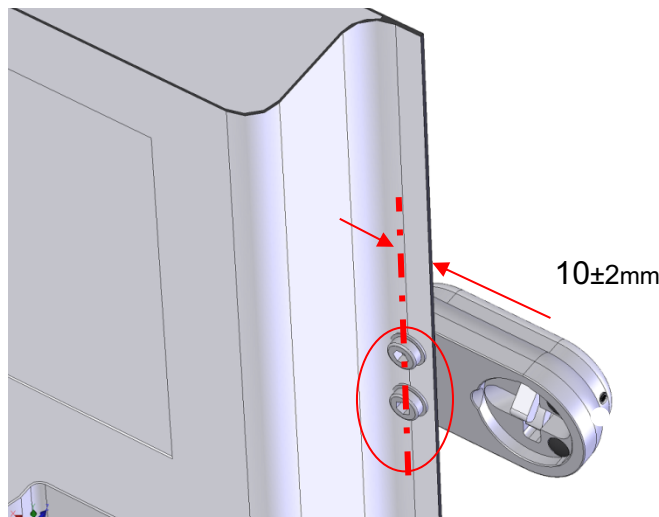

Fig.5
- The position of the first two 9 holes is approximately 10 ± 2 mm from the vertical edge of the door that opens (see fig. 5). This is a very resistant tailgate surface. The tolerance indicated is used to allow the cylindrical head of the M8 pin to be positioned within the edge and never beyond it.
The fixing of the armor normally involves the holes on the extreme edge of the door using the two M8 button head bolts. Before drilling, check that the head of the M8 bolt is contained in the edge (see Figure 5).